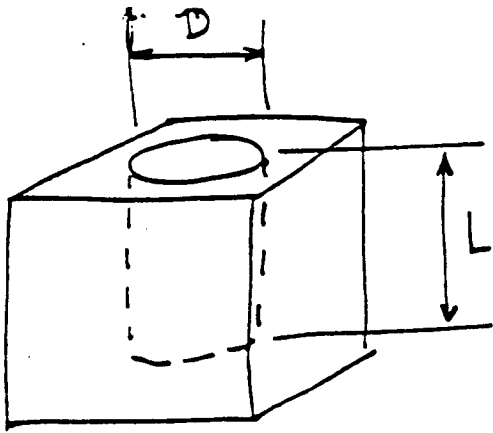

Fig 1
1. a) Consider the open (aluminum) mold casting of a wax candle as shown in Fig. 1. Assume that $L > D = 2$ cm, the mold is at a constant temperature of 30°C and the wax is poured at 100°C . Estimate the time to cool the wax to 37°C . Note that wax has similar thermal properties as polymers. Discuss what would the consequences be if L and D were of the same order.